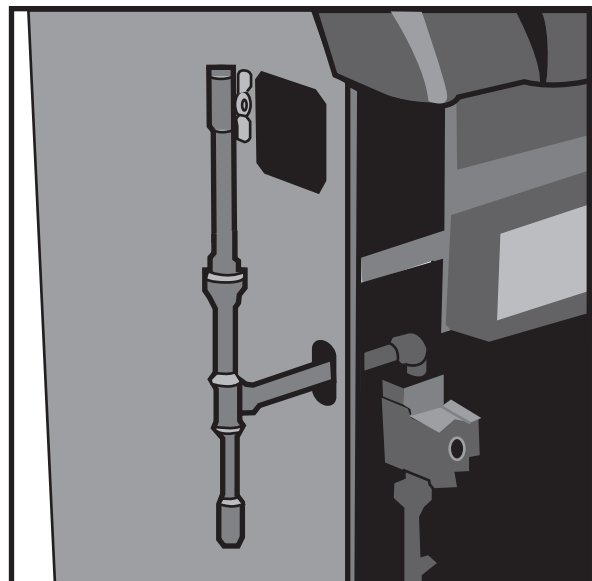

Figure 5-a
2. Thread a $\frac{3}{4}$ in. x $1\frac{1}{2}$ in. nipple, a 90° street elbow, or a Honeywell flange onto the gas valve and pipe through the slot in the left jacket panel (Figure 5-a). In Canada, close nipples and street ells are not approved for use as gas piping.
3. Pipe through the left jacket panel, and complete drip leg as shown (Figure 5-a).